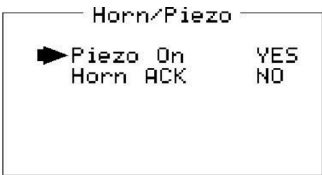

Figure 2-11. Horn/Piezo Menu
- The HA20 display PCB is equipped with a small audible piezo (NEMA 4X housing only) that chirps when keys are pressed providing an audible feedback to the operator. It also may be set to audibly indicate alarm conditions by selecting YES in the **Piezo On** menu option (Figure 2-11). This piezo will then mimic the Horn settings menus described in Section 2.3.1.